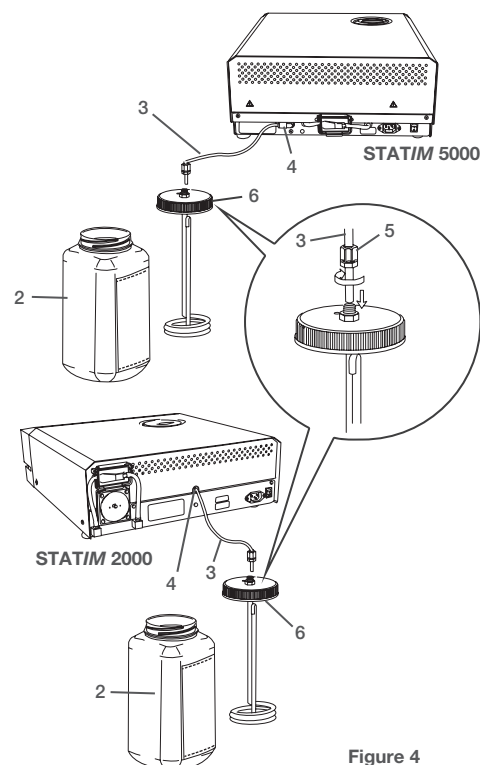

Figure 4
The waste bottle (2) is used to collect the wastewater after it has been converted to steam and then drained from the cassette. To connect the waste bottle to the STAT/M, follow these steps (see Figure 4).
1. Insert the exhaust (3) tube into the fitting (4) on the back of the unit and connect tightly.
2. Cut the tube to length and slide the waste bottle fitting (5) into place.
4. Unscrew the lid and copper condenser coil (6) assembly from the waste bottle. The lid and coil should come out together.